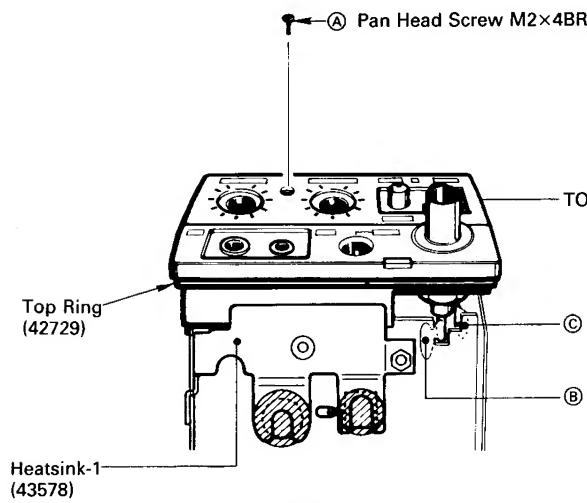

Fig. 5-2-1
1. Remove screw **A** as shown in Fig. 5-2-1.